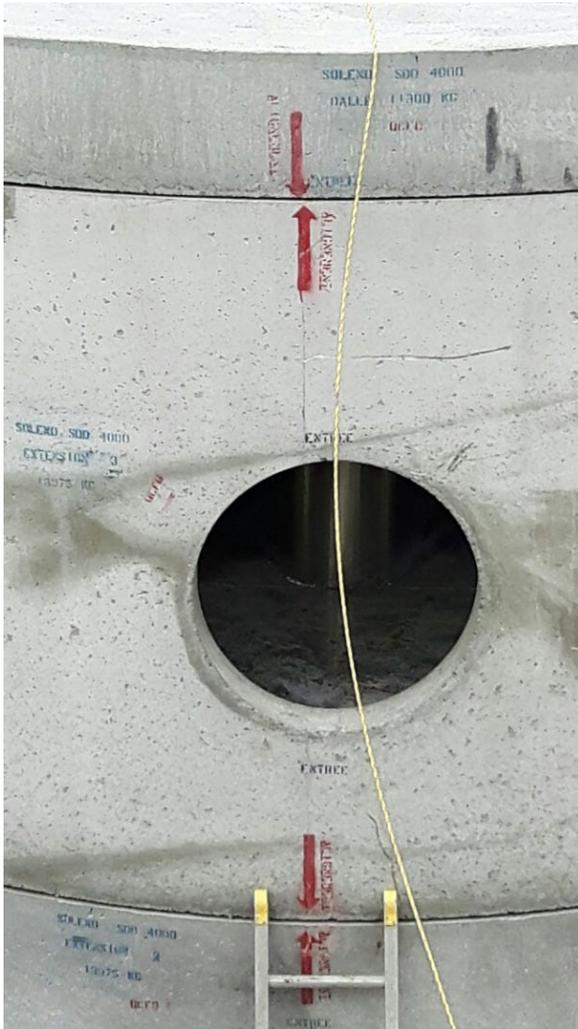

FIGURE 3:
3. Each section is marked with alignment arrows that should be matched together (Figure 3).